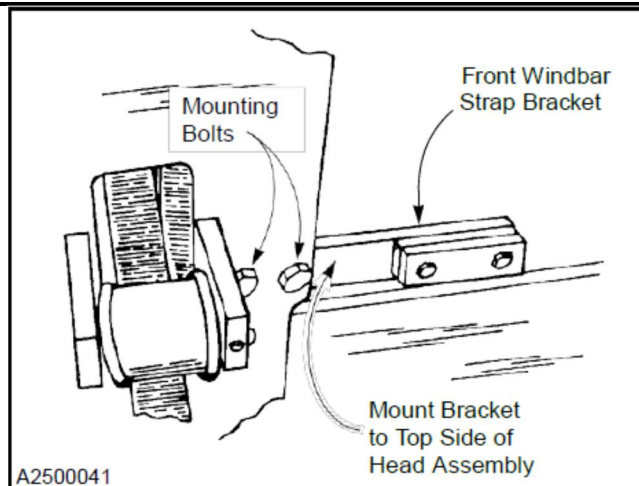

Figure 5
- 16.) Mount the front windbar strap brackets. (See Figure 5)